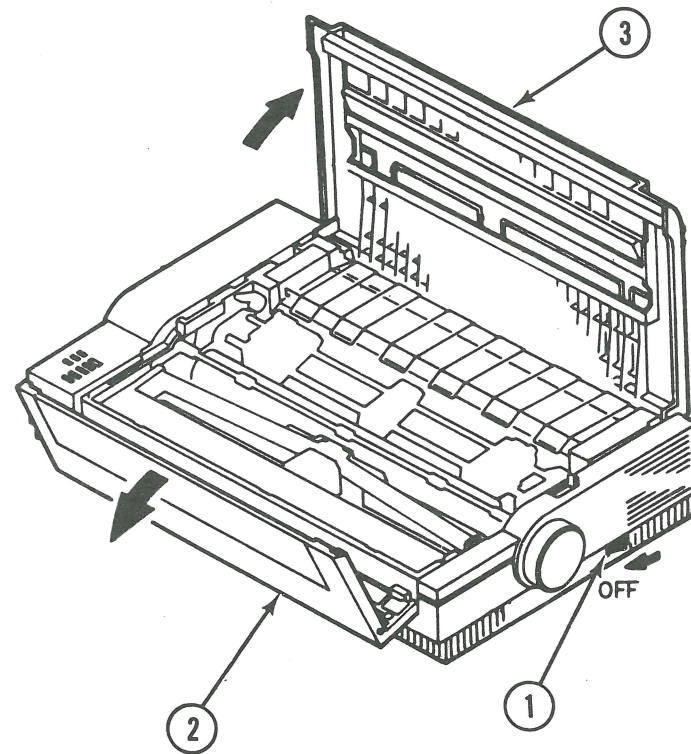

FIGURE 2
- SF-IPL.3 Forward Collator Assembly (Figure 2)
1. Turn off the printer (Figure 2, #1).
2. Open the front cover (Figure 2, #2) and then the rear cover (Figure 2, #3).